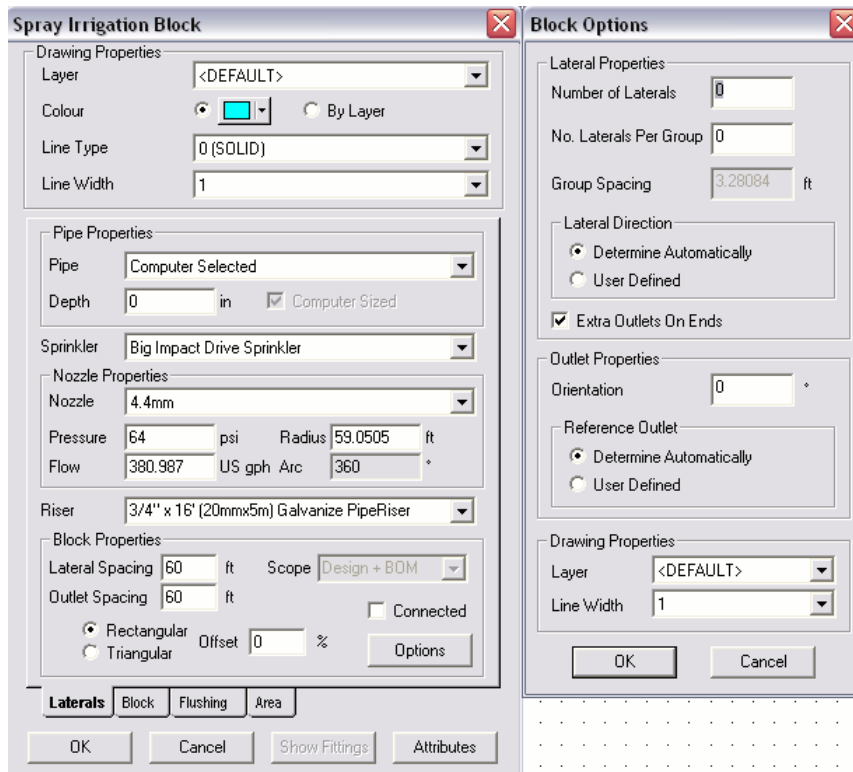

Figure 4-63
11. Now select *Zone/Spray Irrigation Block*. On the *Laterals* tab, leave the pipe as **Computer Selected**. Select the **Big Impact Drive Sprinkler** and the **4.4mm “Nozzle”**. Change the “**Pressure**” for the nozzle to **64psi (45m)**. The “**Radius**” will change to 59.05ft (18m). Select the **¾” x 16ft (20mm x 5m) Galvanized Pipe Riser** and change the “**Lateral**” and “**Outlet Spacing**” to 60ft (**18m**) each. Leave the “**Outlet Spacing Properties**” as “**Rectangular**” and **0% “Offset**”. Uncheck the “**Connected**” checkbox. Leave the “**Scope**” as **Design + BOM**. Click the **[Options]** button and check the “**Extra Outlets on Ends**” checkbox as in Figure 4-63. Click **[OK]** on both dialogs.